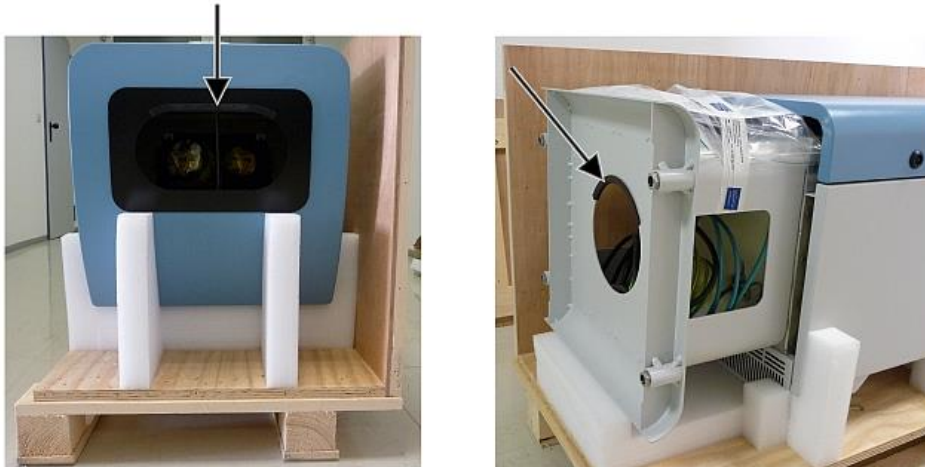

Figure 7 Lifting positions and handle protection (edge protection profile).
- ⇒ Carefully lift the CHM 15k out of the polystyrene or paper honeycomb packaging by hand, observing all safety regulations. (Lifting positions: Figure 7)
- ⇒ To carry: Grasp the equipment in the openings marked with arrows (Figure 7)